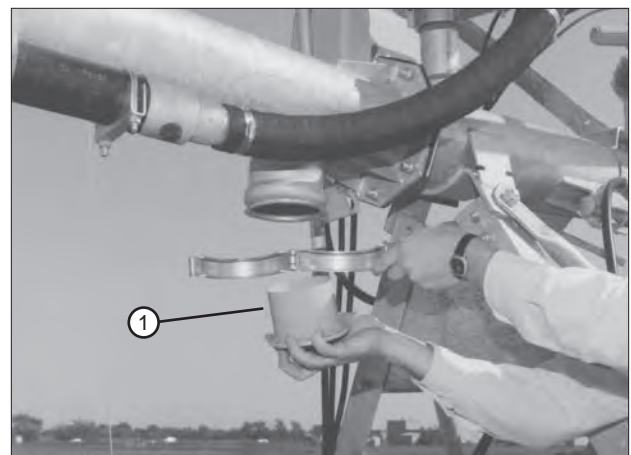

Figure 35-2
3. Remove and clean the sand trap at the last regular drive unit. See figure 35-2.